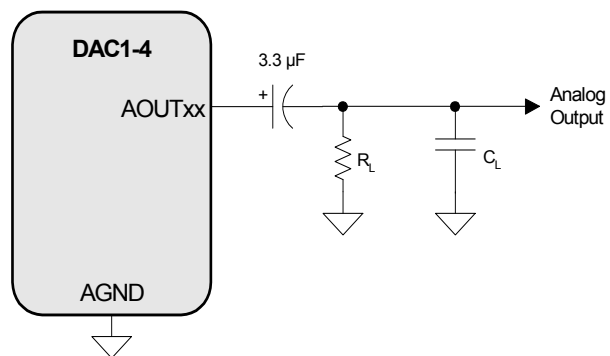

Figure 3. Output Test Circuit for Maximum Load
- Guaranteed by design. See Figure 3. R_L and C_L reflect the recommended minimum resistance and maximum capacitance required for the internal op-amp's stability and signal integrity. In this circuit topology, C_L will effectively move the dominant pole of the two-pole amp in the output stage. Increasing this value beyond the recommended 100 pF can cause the internal op-amp to become unstable. See “External Filters” on page 48 for a recommended output filter.